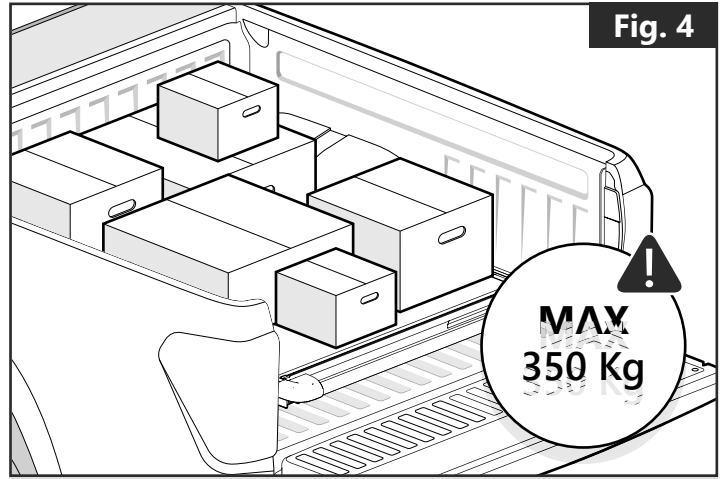

Fig. 4
- The Mountain Top Slide has a max load capacity of 350 kg spread evenly across the deck. **(Fig. 4)**